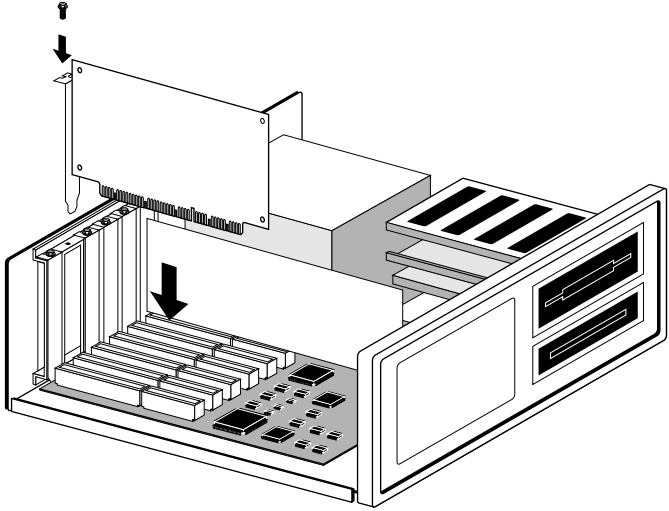

Figure 2-4 Installing the Adapter
- 3 Insert the 3C619C adapter into the empty expansion slot, as shown in Figure 2-4, and secure it with the screw you removed earlier.